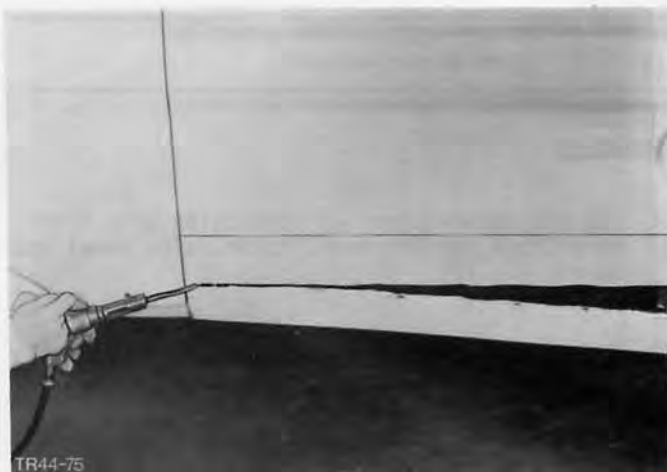

Fig.132. Cut out rocker panel extension.
1. Cut out rocker panel extension at B pillar and wheel house, Fig.132.